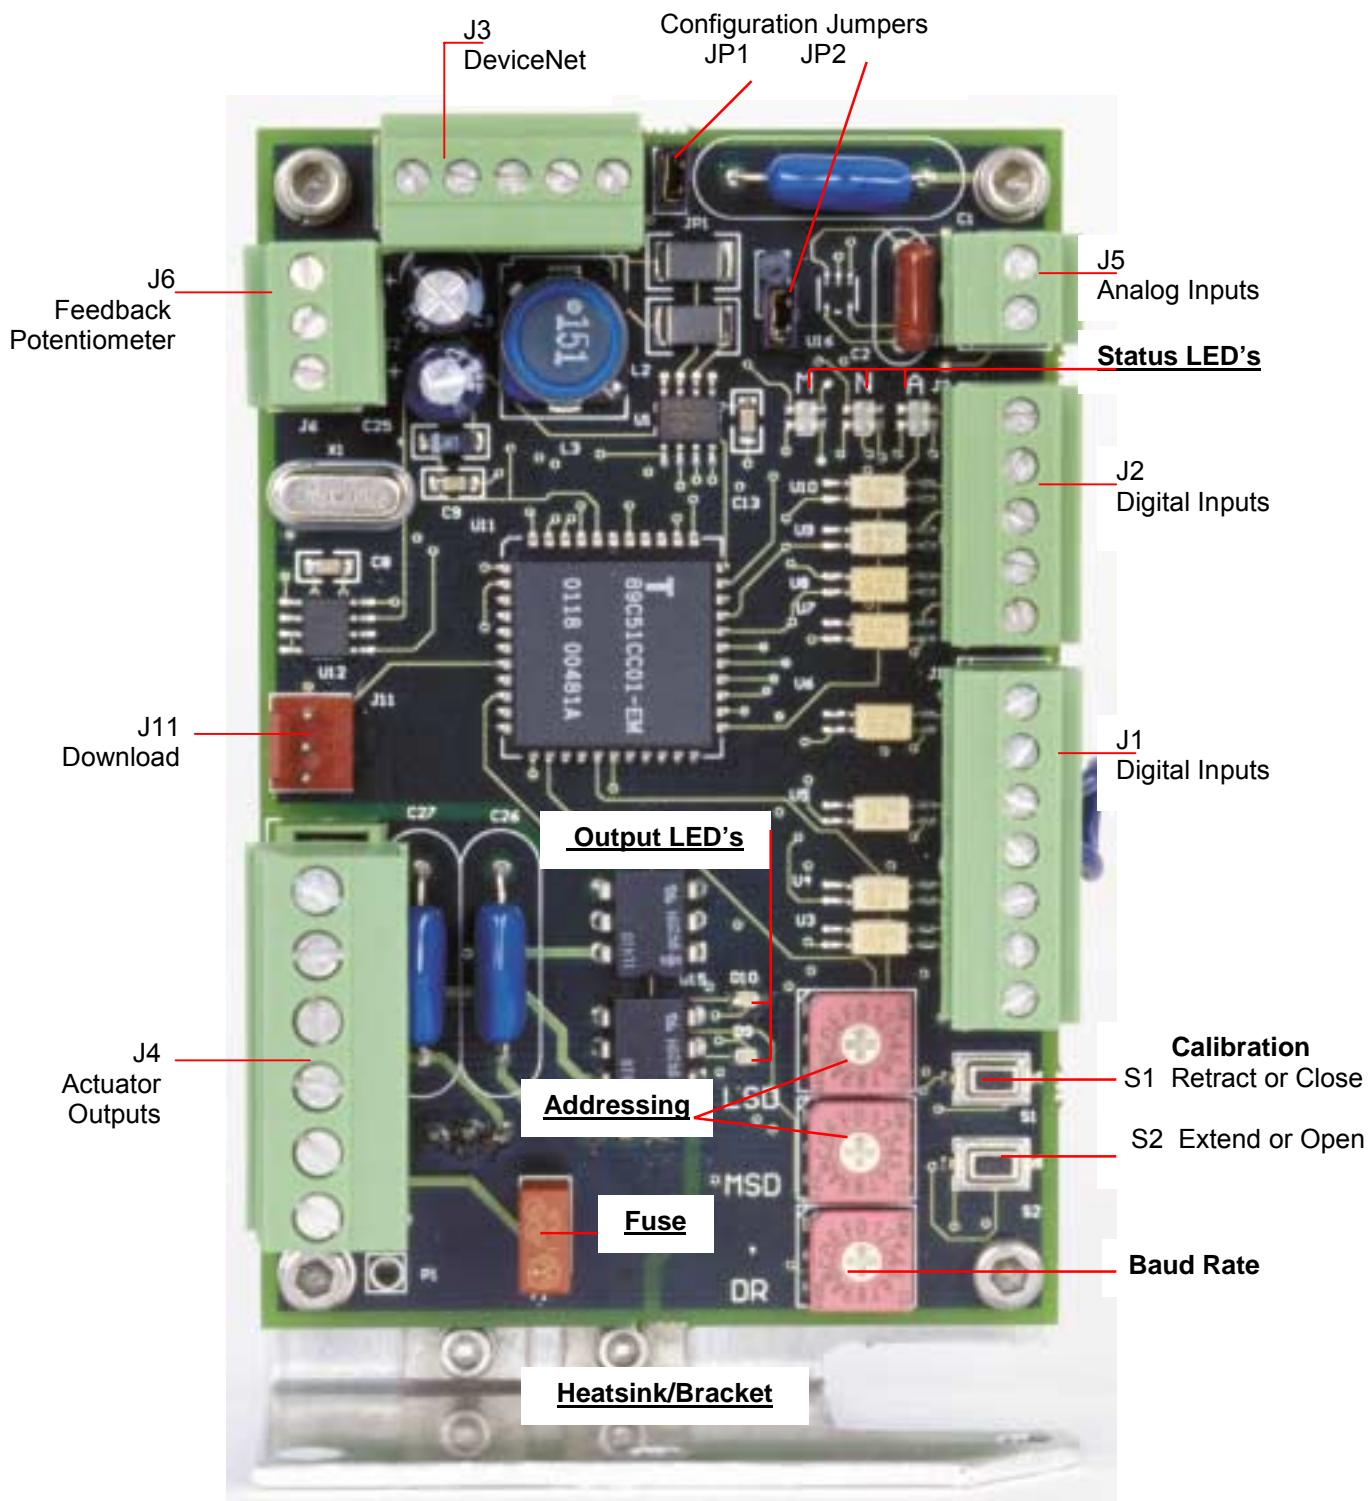

Figure 1
1.6.1 Address Switches SW1 and SW2, See Figure 1
1.6.2 Calibration Switches, See Figure 1
1.7 Configuration Jumpers, see Figure 1
1.8 LED Indications, see Figure 1
1.8 Terminal Blocks, see Figure 1